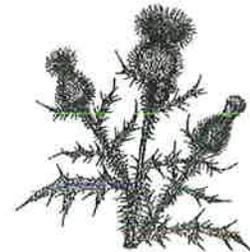

Figure 8-5. Nearly every part of the thistle plant is spiny.
**Bull thistle** (also called common thistle) is a large, coarse, spiny winter biennial (Figure 8-5). During the first year, it grows into a flat rosette of leaves and sends down a large taproot. During the second year, it sends up a central stalk with "wings" running down the stalk from each side of each leaf. The branches are hairy, and the prickly leaves are hairy on the bottom and smooth on top. The attractive reddish or purple flowers form at the ends of short, prickly, winged stems. The seeds are readily blown about like dandelion seeds.